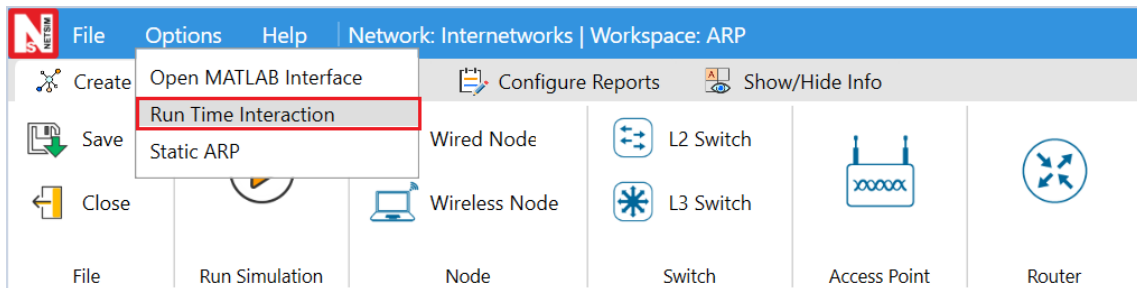

Figure 3-110: Run time Interaction tab set Interactive Simulation as True
- Click on **Options** tab and select Run Time Interaction option Figure 3-110.